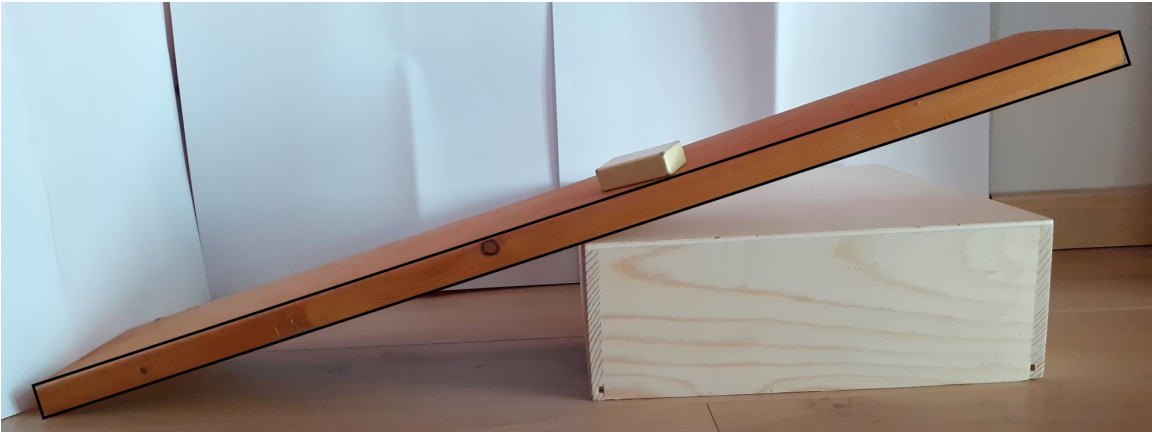

Figure 1: Method 1: Picture of the experiment at the critical angle. The borders of the board have been highlighted for better visibility
The experiment is carried out for a wooden cube on a wooden board. A picture is provided in figure 1 at the critical angle.
- Write each direct measure along with its uncertainty. Indicate on figure 1 the physical quantities you measured.